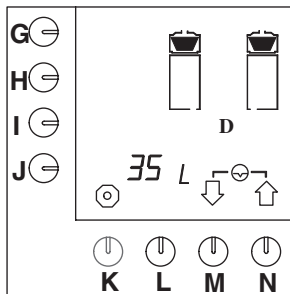

Fig. 14 Day counter coffee-making system
After entering the users' PIN code fig.14 appears in the display. The total number of litres that have been made that day can be read from the display.
- Hold programming key (G.) down until fig. 14 re-appears on the display.